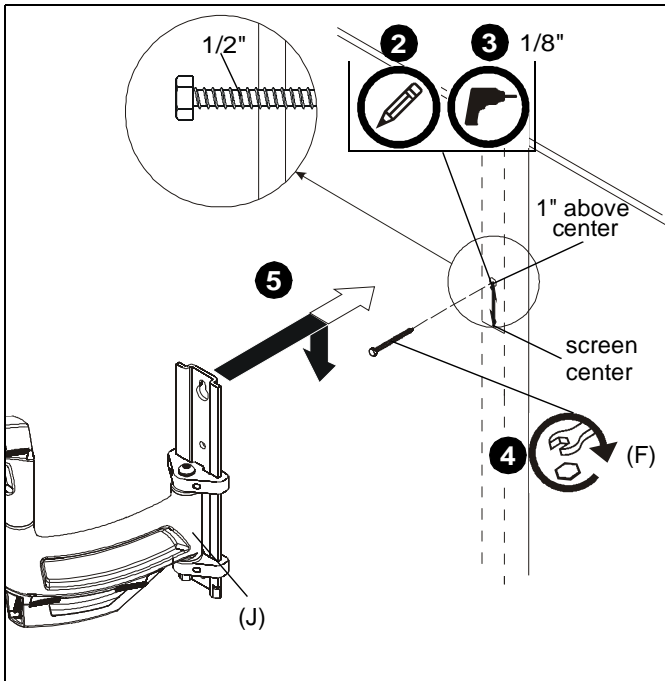

Figure 1
2. Measure 1" above desired center line of display and mark a hole at desired mounting location on the center of wood stud. (See Figure 1)
3. Drill one 1/8" hole at location marked in Step 2. (See Figure 1)
4. Install one 1/4 x 2 1/2" lag bolt (F) into hole, leaving screw hanging out 1/2" from the wall. (See Figure 1)
5. Hang main assembly (J) onto lag bolt (F) by latching key-shaped hole over top of bolt. (See Figure 1)